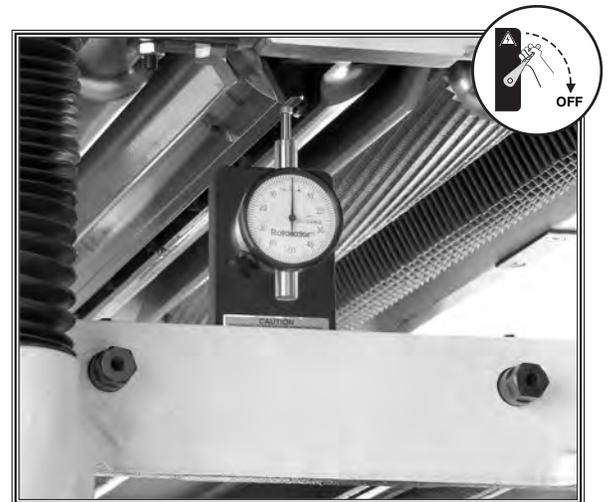

Figure 29. Finding BDC with the Rotacator.
5. Using your Rotacator, find BDC of any knife edge by slowly rocking the cutterhead pulley back and forth, and set the Rotacator dial to zero, as shown in Figure 29.